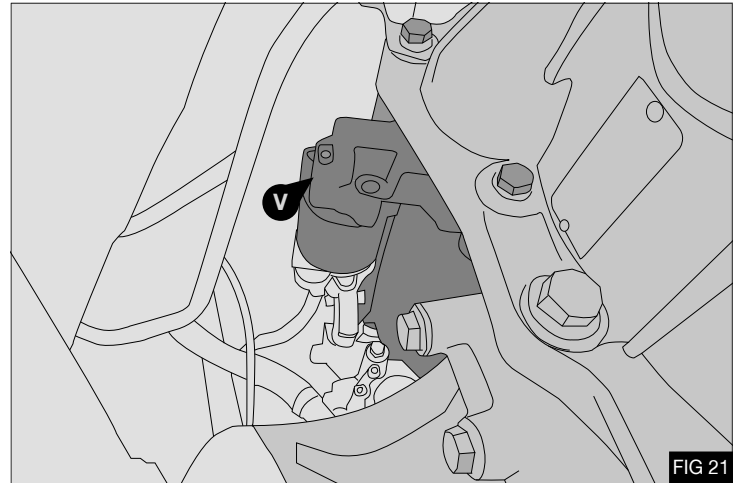

FIG 21
13. Remove 3x fasteners securing the engine starter motor (V).
- Fig 21